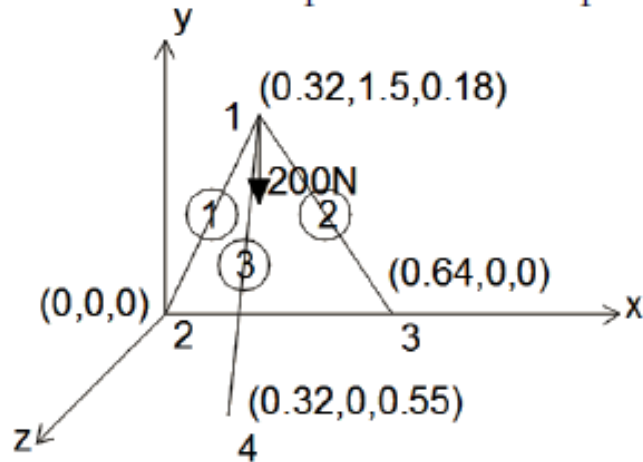

Figure 1
- The tripod shown in **Figure 1** is to be used to support a Total Station weighing 200N. The tripod legs form an equilateral triangle at the base with the side length of the triangle being 0.75 m whereas the height of the top of the tripod from the ground is 1.5 m. It can be assumed that the tripod legs are restricted from any translation at the base. The tripod legs are made of a synthetic linear elastic material with modulus of elasticity being 10GPa. The diameter of the circular cross-section of the tripod legs is 2 cm.